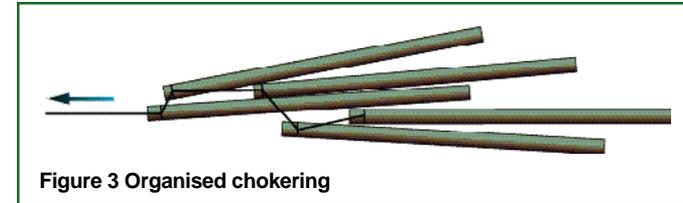

Figure 3 Organised chokering
- 18 Organise the chokering system to allow the load to be freely winched in, avoiding obstructions (see Figure 3).